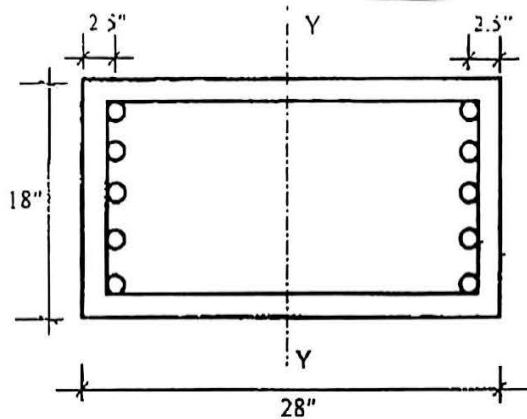

Figure: 1
1. (a) A 18×28 inch column is reinforced with 10 # 9 bars as shown in Fig. 1. Construct the nominal strength interaction diagram for the column with three points corresponding to pure axial load, pure bending, balanced condition. Also find corresponding ϕ for the above points. Assume bending about Y-Y axis. Given : $f'_c = 4.0$ ksi and $f_y = 60$ ksi. (20)